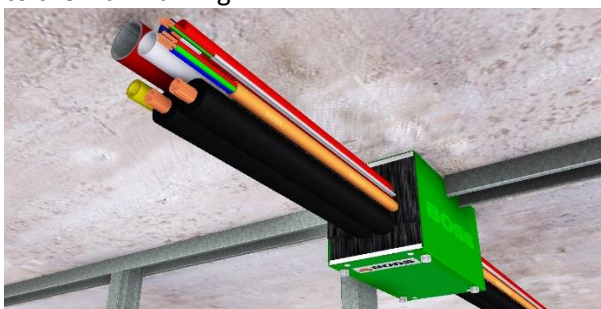

Figure 5
6. Install wall framing around BOSS FyreBox (Figure 5). The BOSS FyreBox does not need to be attached to the wall framing.